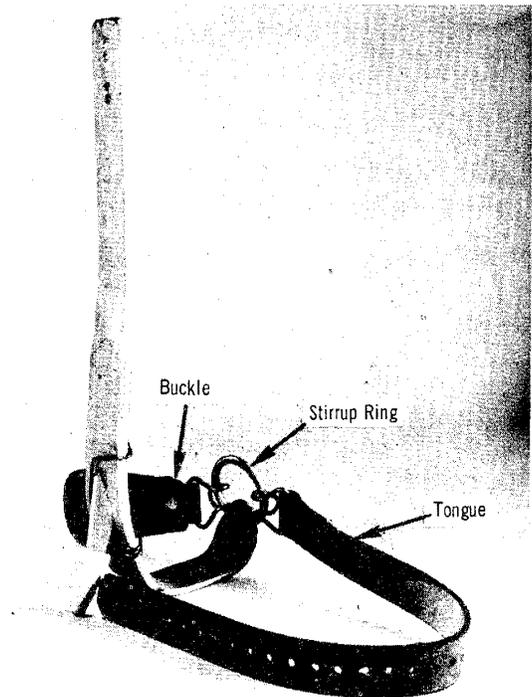

Fig. 5 – C Climber Foot Strap Installed on Right Climber
2.05 C Climber Foot Straps, Fig. 5, are used on the stirrup rings of adjustable climbers to fasten the climber to the foot. A C Climber Foot Strap consisting of a tongue and buckle that can be clipped to the climber stirrup ring is placed on the climber so that the buckle will be across the foot instep when fastened.